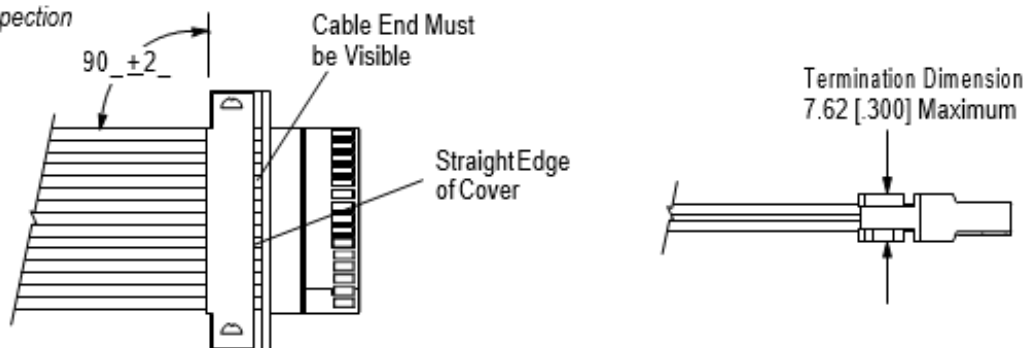

Figure 18
A. External Inspection (Figure 18)